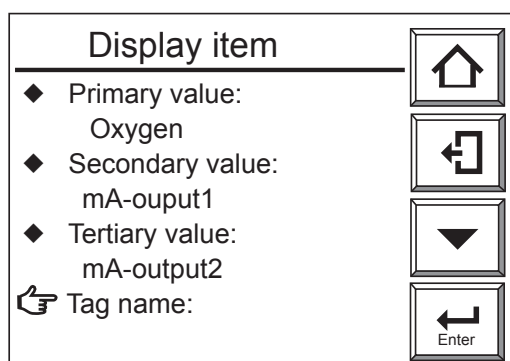

Figure 10.6 Display Item Display
- (1) Select the [Setup] key from the Basic panel display to display the Execution/Setup display. Then select "Maintenance" from the Execution/Setup display.
- (2) Select the "Display setup" from the Maintenance display.
- (3) Select the "Display item" from the Display setup display. The display shown in Figure 10.6 then appears.
- (4) Select the "Tag name" from the Display item. The text-data entry display then appears.
- (5) Enter up to 12 alphanumeric characters including codes for the desired tag name.